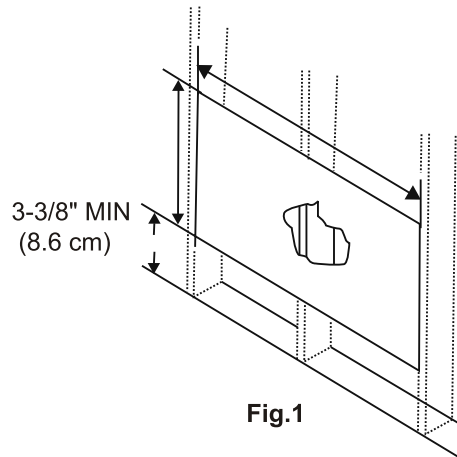
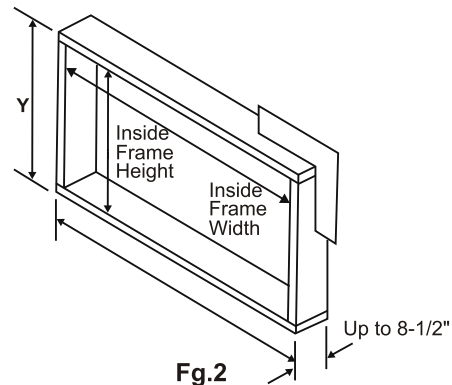

Fig.1
Fig.2
1. Pull down front grille and remove filter. (See Fig.1).
3. Locate the four front screws and remove. These screws will be needed to re-install the front panel (see Fig.2).
3. Measure between inside edges of every other stud as shown in Fig.1.
Carefully measure and cut an opening with the following dimensions depending on your model. See Fig.1 and Fig.2.